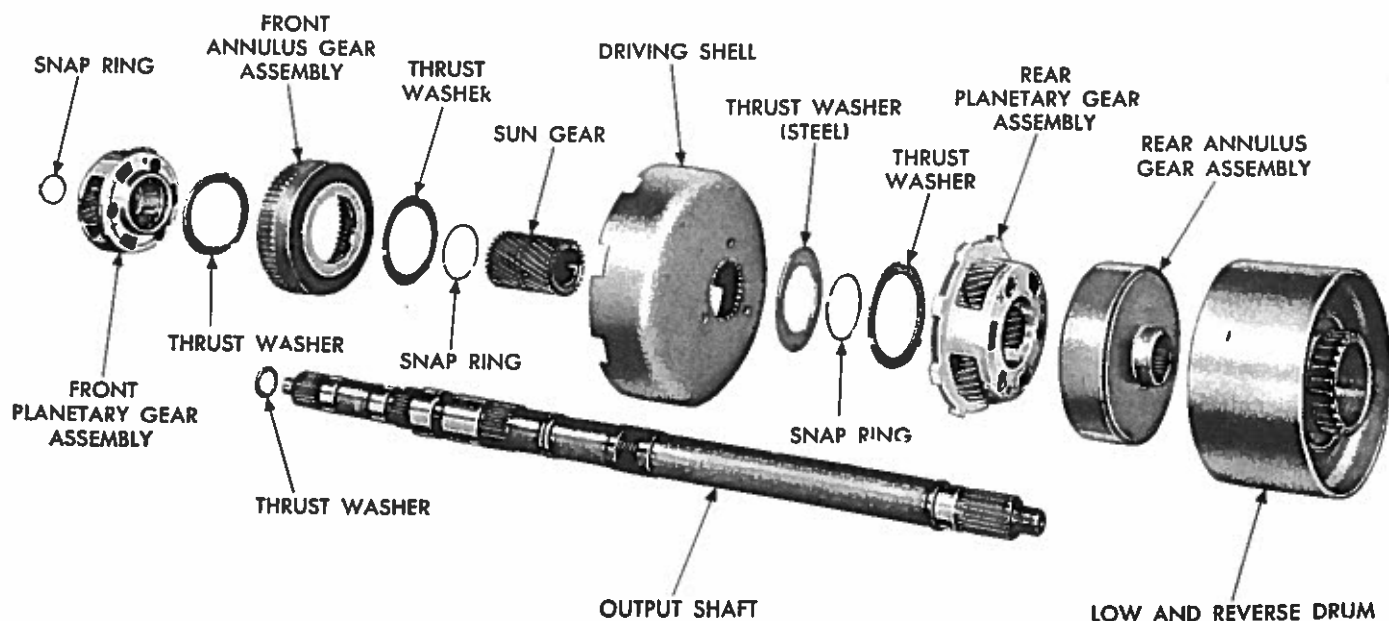

Fig. 67—Planetary Gear Assemblies, Sun Gear, Driving Shell, Low and Reverse Drum and Output Shaft (Exploded View)
(1) Remove thrust washer from forward end of output shaft (Fig. 67).
(2) Remove snap ring from forward end of output shaft, then slide front planetary assembly off the shaft.
(3) Slide front annulus gear off the planetary gear set (Fig. 67). Remove thrust washer from rear side of planetary gear set.
(4) Slide sun gear, driving shell, rear planetary assembly with low and reverse drum off the output shaft.
(5) Lift sun gear and driving shell off the rear planetary gear assembly. Remove thrust washer
Refer to Figure 67 for parts reference.
(2) Apply a coat of grease on the input to output shaft thrust washer (Fig. 67), and install washer on front end of the output shaft.